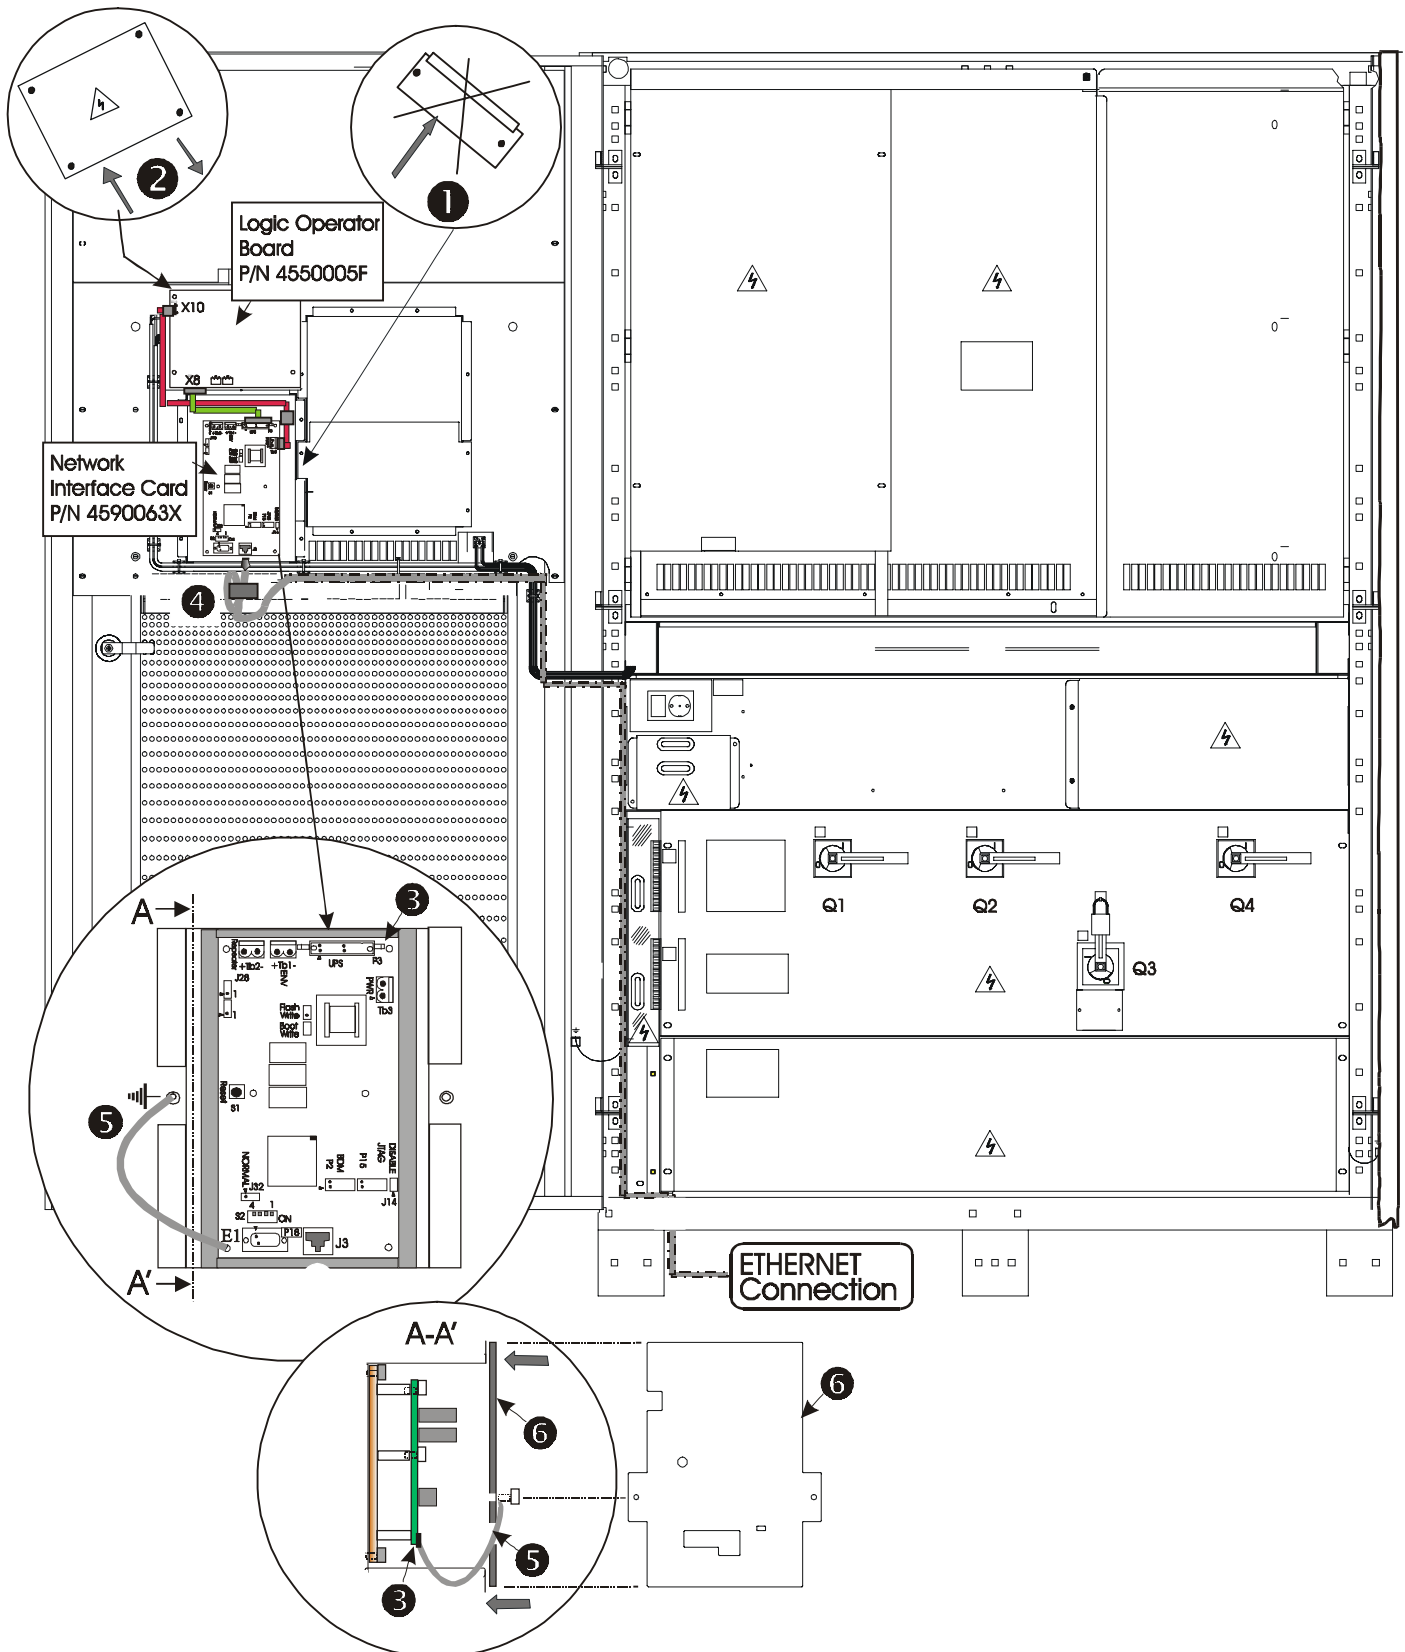

Figure 2-2 – Location of the kit P/N 4645111D inside the Liebert Hipulse UPS cabinet.
The NIC card is installed in the modem cavity on the rear of the operator access door (see figure 2-2).
13. Connect the ETHERNET cable (type Category 5, as defined in paragraph 2.5.1) to the RJ45 socket (J3 on the NIC card), after winding it twice around the loose ferrite core ❹.
15. Fix the outgoing ETHERNET cable, following the cable way shown in figure 2-2, using the supplied cable ties.
16. Mount the metal cover ❺ (supplied) take care to connect the earth wire ❻ to E1 on the NIC card and to the frame using one of the fixing screws of the metal cover.